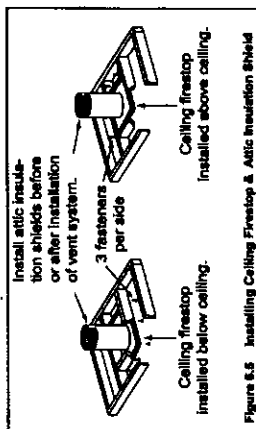

Figure 6.5 Installing Ceiling Firestop & Attic Insulation Shield
- The ceiling firestop may be installed above or below the ceiling. Refer to Figure 6.5.